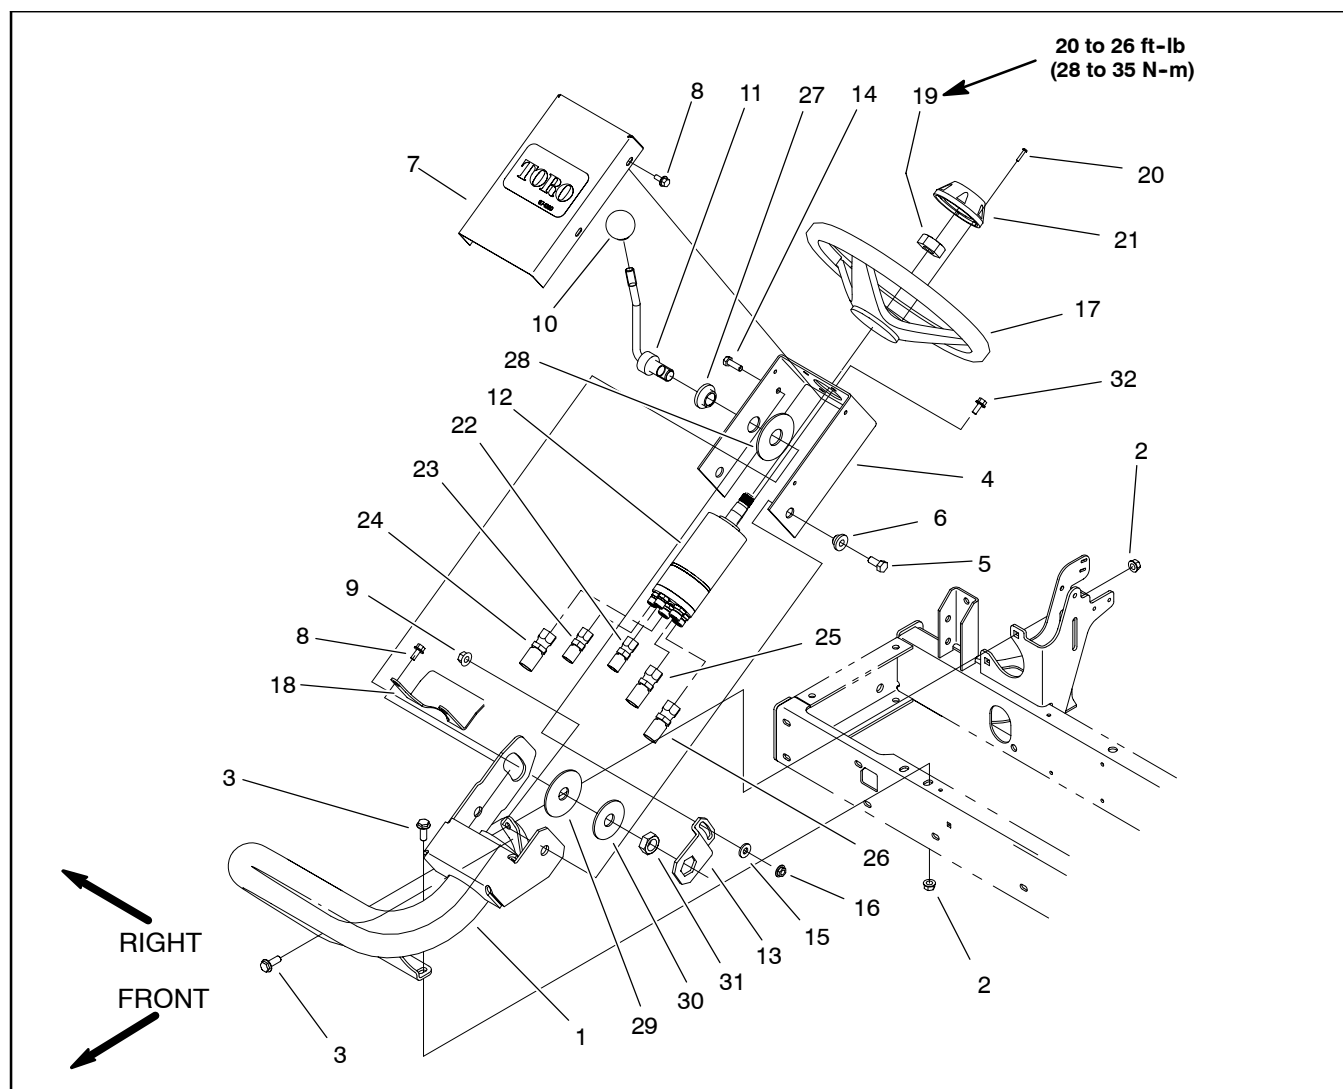

Figure 9
Disassembly (Fig. 9)
4. Remove steering cover (item 7) from the steering control valve bracket.
5. Remove four (4) flange head screws securing the steering control valve to the steering control valve bracket.
7. Remove remaining parts as necessary to repair steering column using Figure 9 as a guide. If steering control valve requires service, see Steering Control Valve in the Service and Repairs section of Chapter 4 – Hydraulic System.
Assembly (Fig. 9)
1. Make sure lever and friction discs are properly assembled to the steering control valve bracket using Figures 9 and 10 as guides.
3. Secure steering control valve bracket to the steering control valve with four (4) flange head screws.